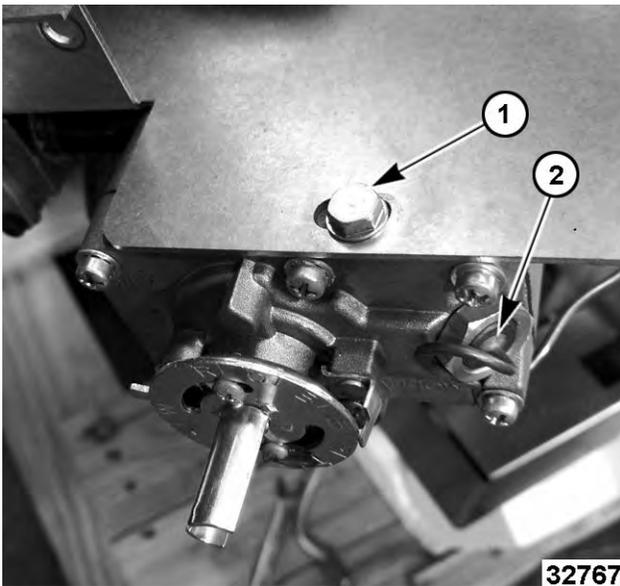

Fig. 28
- Remove screw (1, Fig. 28) securing temperature control to gas mount bracket.
Remove capillary (2, Fig. 28).